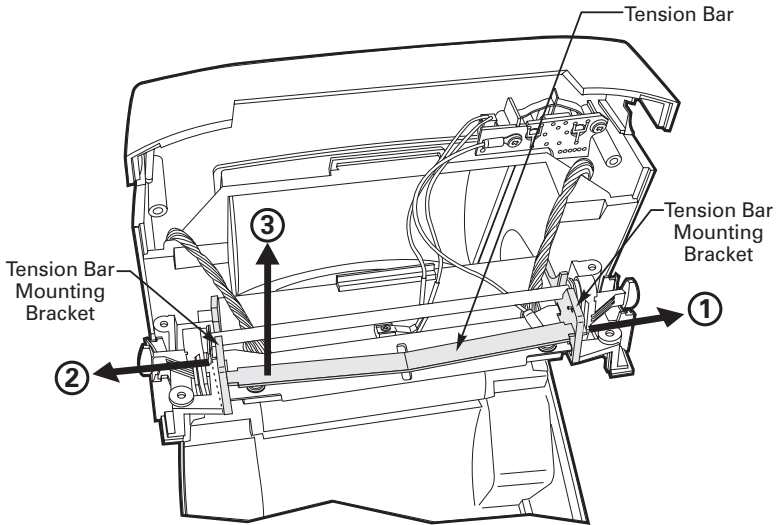

Figure 26
3. Refer to Figure 26. Slide the tension bar all the way to the right in its mounting bracket (1). Then, while gently pressing on the opposite mounting bracket (2), lift and remove the tension bar (3).